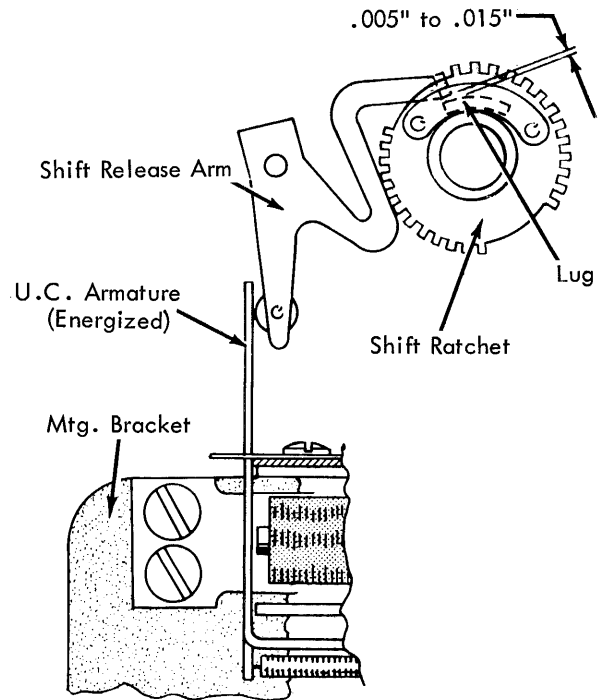

FIGURE 80. Magnet Assembly Mounting Bracket
- b. 15 Inch Machine And All Late Style Shift (Fig. 80) - Position the magnet assembly mounting plate (UC armature energized) so that the release arm clears the shift ratchet lug by .005" to .015".